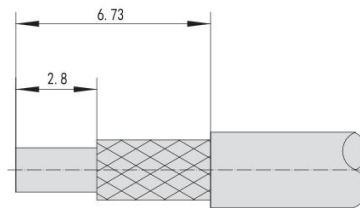

Figure1.1
① Peel off the cable as shown in Figure 1.1. The end surface must be cut and at right angles to the axis of the cable. When cutting, the cable must not deform. Hot stripping line is recommended